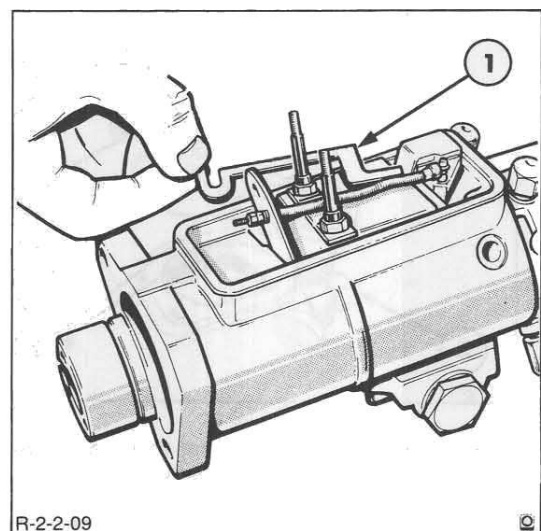
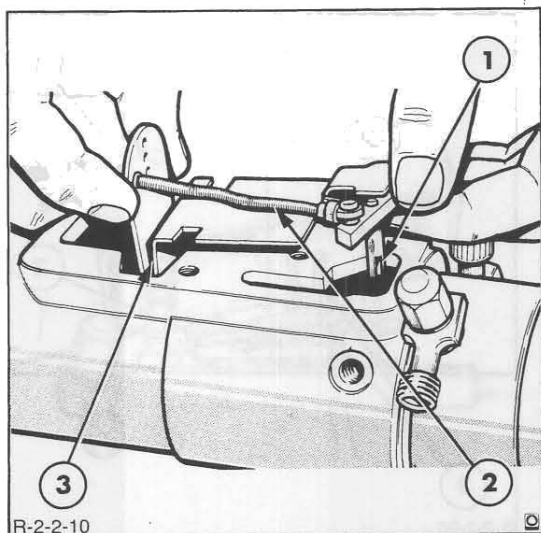

Figure 9
Figure 10
3. Remove the shut-off bar, Figure 9, the two housing securing studs and the small bolt securing the governor bracket. Remove the governor control linkage together with the metering valve, Figure 10.